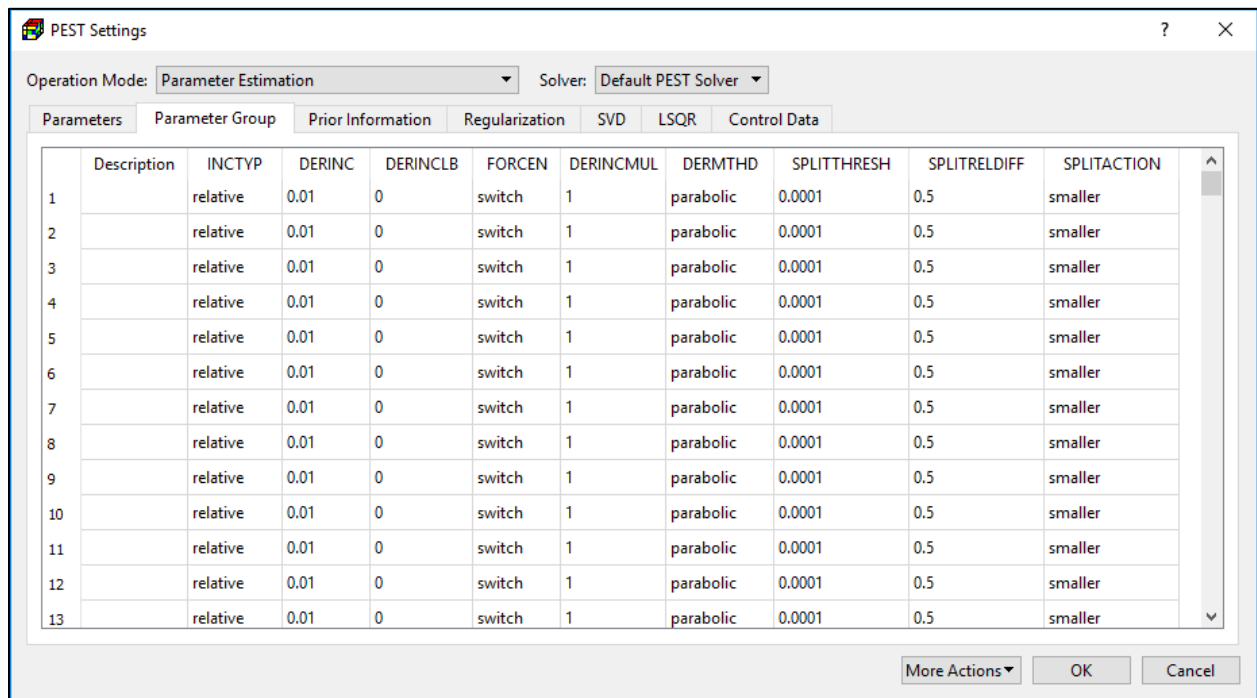

Figure 138. The Parameter Group tab of the PEST Settings dialog box
5. **Parameter Group Tab** (Figure 138): In PEST, the input variables that define how derivatives are calculated pertain to parameter groups rather than to individual parameters. Thus, derivative data do not need to be entered individually for each parameter; however, if you wish, you can define a group for every parameter and set the derivative variables for each parameter separately.